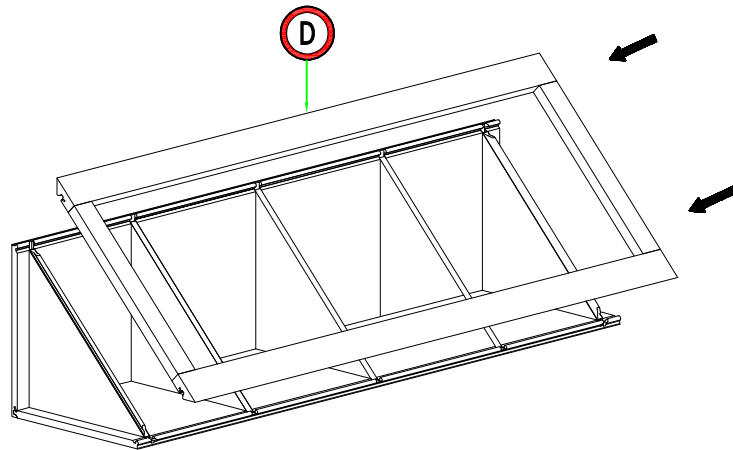

Figure 5
5. Installing the Frame: Insert frame (D) into grooves of side panel (A) & back panel (B). Press down until they click into place. (Figure 5)